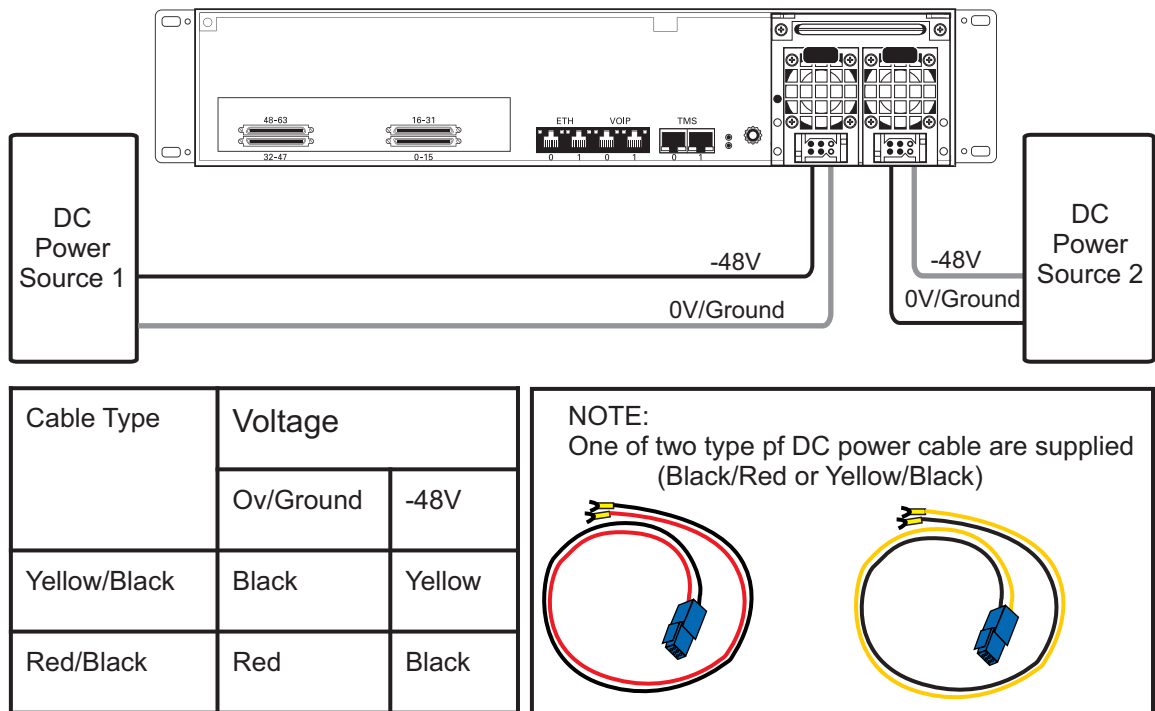

Figure 4.12 DC Power Connection
1. Connect one DC cable, supplied with the 7800 Telecom Unit, as shown in figure 4.12 on page 37, to the DC outlet at the rear of the 7800 Telecom Unit.
Note Two types of cable with different coloring are available. Refer to figure 4.12 on page 37 for the appropriate wiring information.